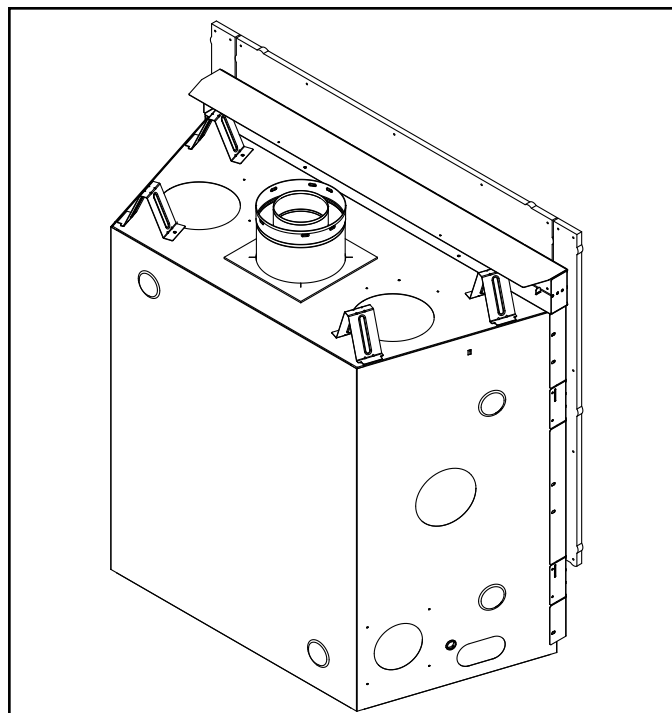

Figure 6.4 COSMO32-IFT-B - Shipping Support and Seal Cap Removed
2. Remove and discard seal cap. See Figure 6.4.